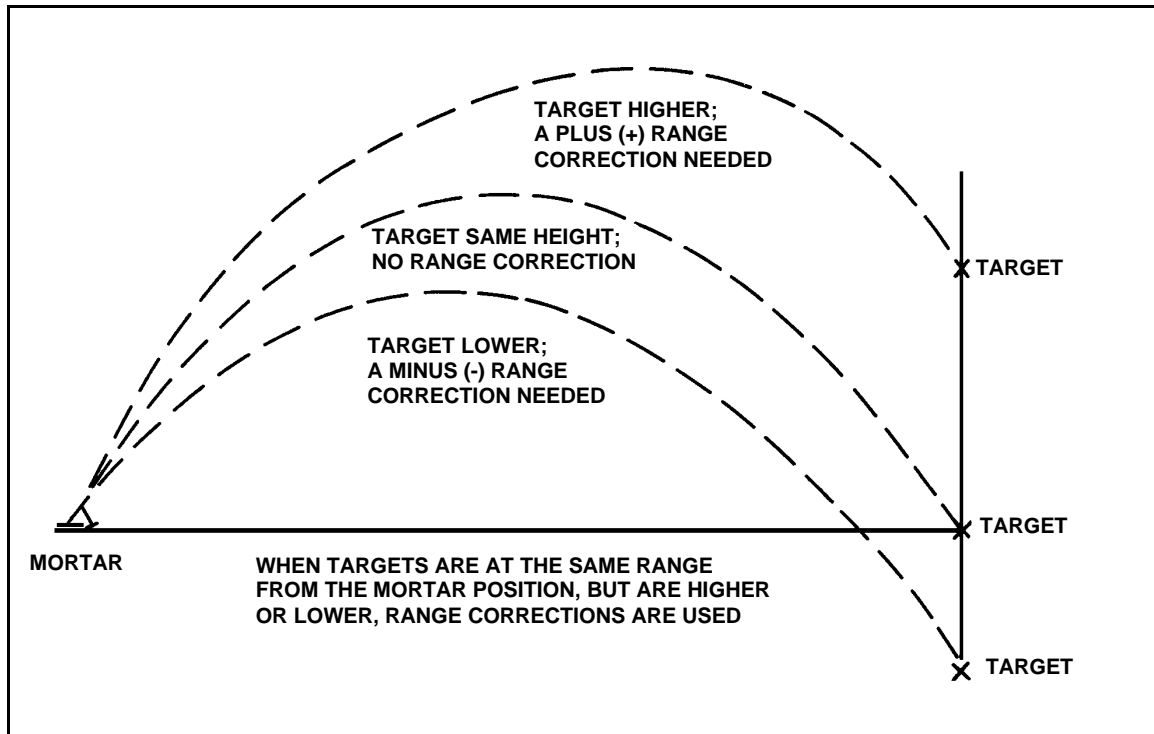

Figure 14-10. Altitude correction.
a. **Determination of Vertical Interval.** The computer compares the altitude of the mortar position and the altitude of the target being engaged. If the altitude of the target is higher than that of the mortar position, then the VI will be a plus (+); if lower, it will be a minus (-) (Figure 14-10).